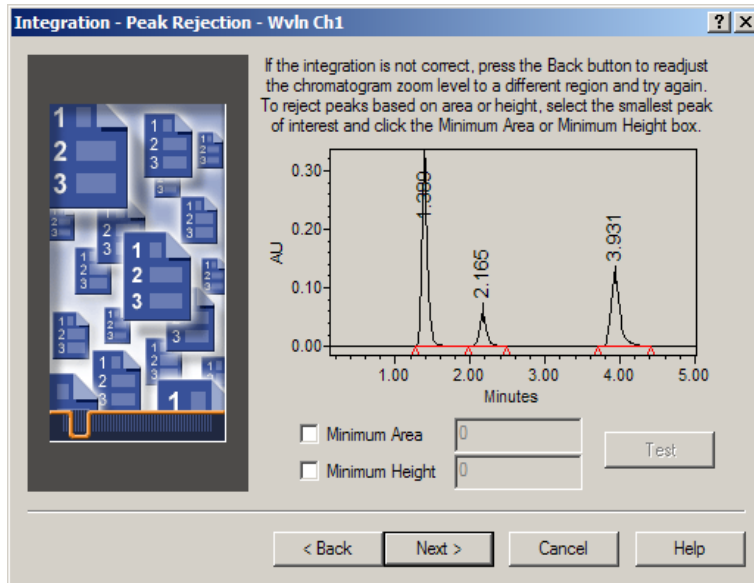

Figure 3-11 Integration - Peak Rejection Page
8. If you want to inhibit integration, follow the wizard instructions and use the mouse to draw a zoom box that encloses the area where you want integration to occur. Integration is inhibited in the area *outside* of the zoom box. The software displays the zoomed selection. Click **Next** to go to the Integration - Peak Rejection page (Figure 3-11).